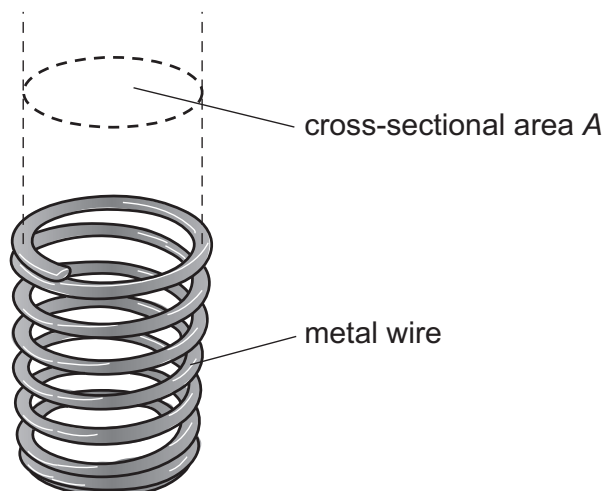

Fig. 1.1
- 1 A student investigates springs made of metal wire, as shown in Fig. 1.1.